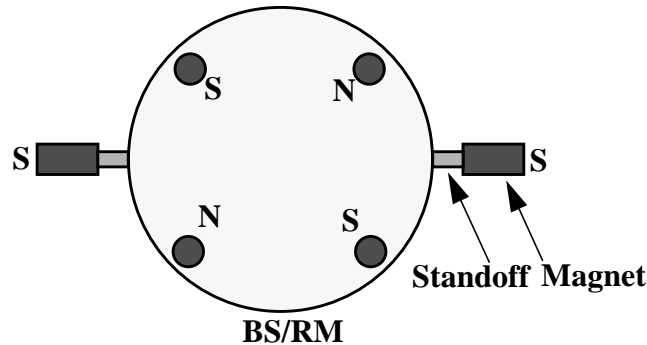

Figure 1: Polarities of the magnet/standoff assemblies.
8. Prepare the plungers: Lay out a clean piece of UHV foil in a convenient position near the oven. Lay out the plungers on the foil in an arrangement similar to the magnet positions in Figure 1. The magnets are placed so that polarities of the magnets alternate; this is to minimise coupling of the optic to time-varying ambient magnetic fields. For each magnet/standoff assembly, double-check the magnet polarity and standoff type and install it into the corresponding plunger, with the standoff end outwards and with only about 1 mm of the magnet visible. Gently press on the end of the standoff to ensure that the magnet/standoff assembly is gripped firmly and will not slide into the plunger.